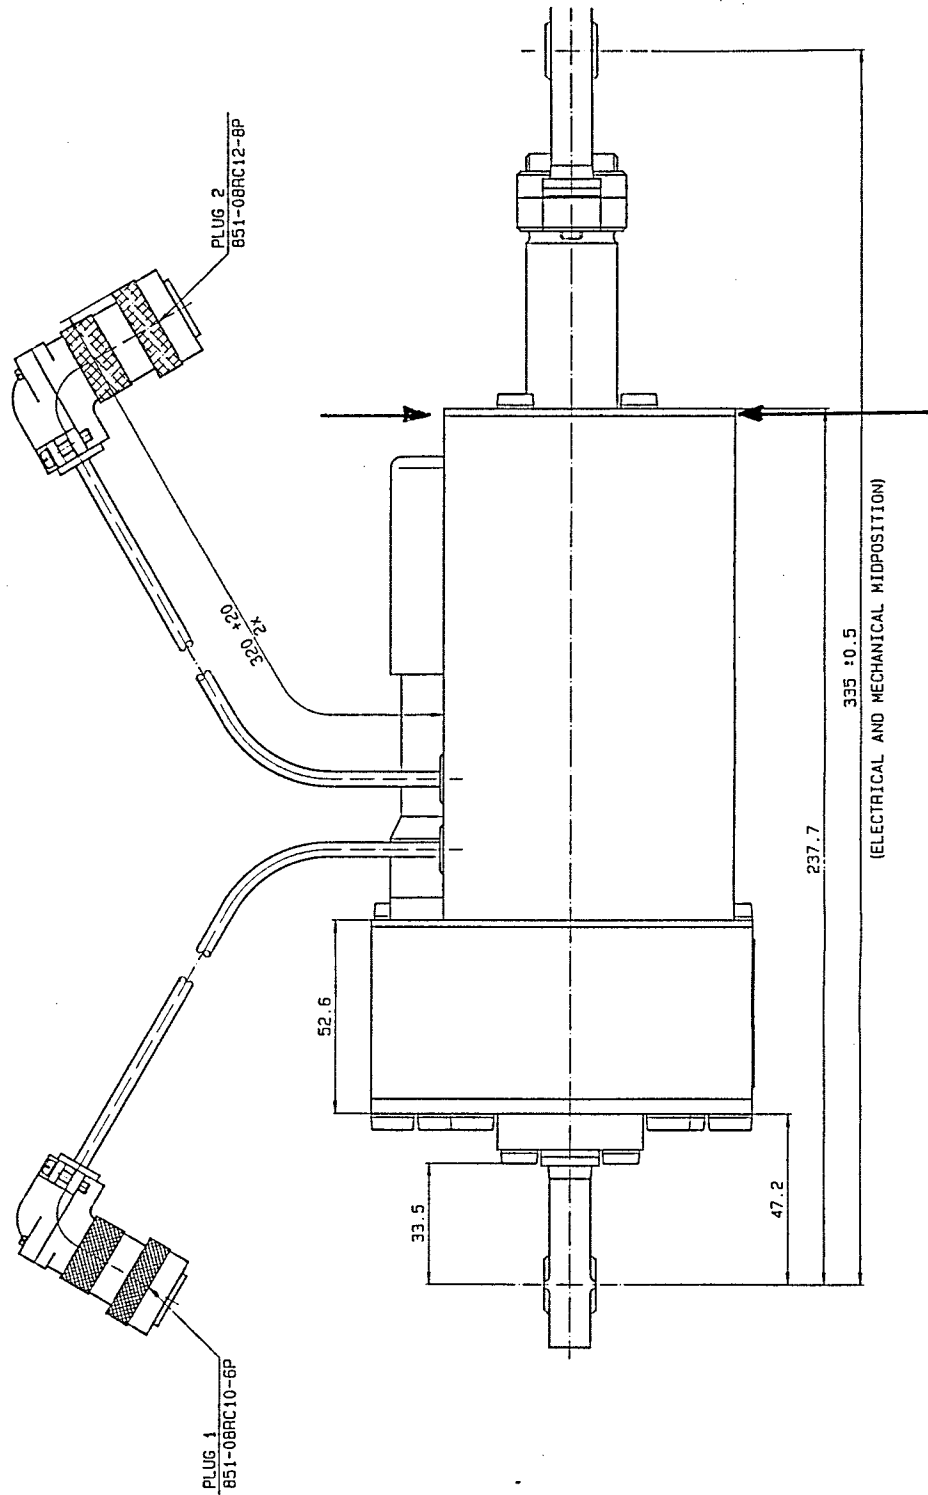

Figure 1
- With a knife try to remove the sealing, on all four sides, between the endcover and the actuator main housing, see figure 1.